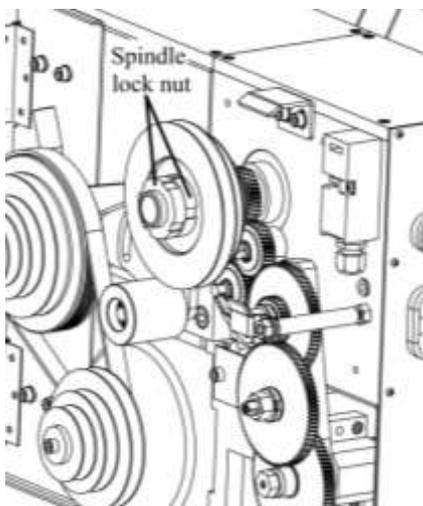

Figure 36
2. Loosen the two **Spindle lock nut** one full turn counterclockwise. (see **Figure 36**)